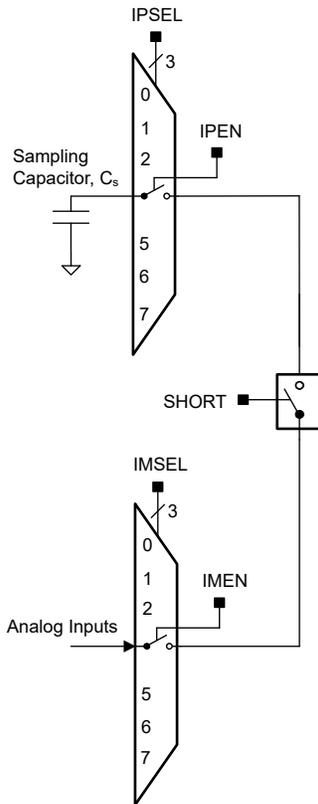

Figure 6-7. Comparator Short Switch
As shown in Figure 6-7, the required sampling time is proportional to the size of the sampling capacitor (CS), the resistance of the input switches in series with the short switch (R), and the resistance of the external source (RS). The sampling capacitor CS must be greater than 100pF. The time constant, Tau, to charge the sampling capacitor CS can be calculated with Equation 2